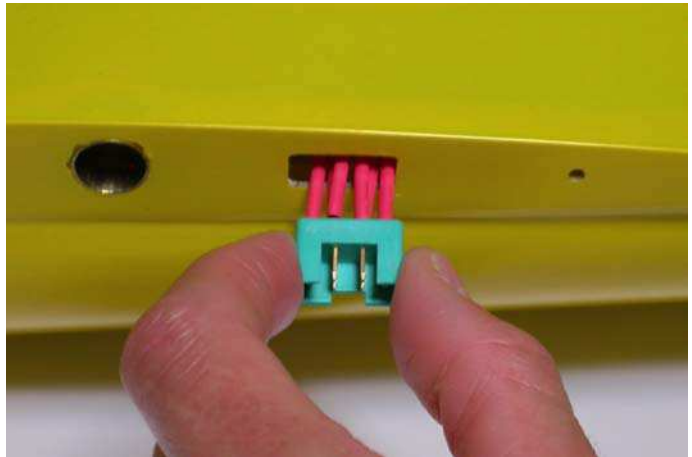

Fig.62: Inserting a cable up to the socket.
- insert the cables up to the socket "MPXF" (see figure 62);